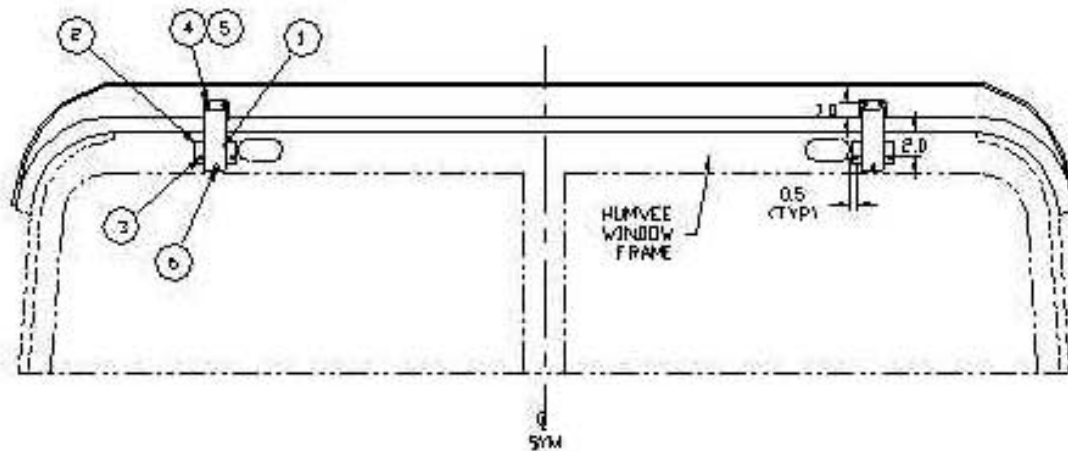

FIG. 1-3
9. Position the strikes on the windshield frame and mark the holes. Drill the holes in the windshield frame with a  $\frac{1}{4}$ " drill bit. Install the strikes with (4 ea.) rivets. See figure 1-3.
10. Install the latches into the strikes and close the latch. Adjust length of the latches so that the center of the latch mounting holes is above the bottom of the rib by 1". Mark the holes for the latches on the reinforcement rib. Remove the latches from the strikes. Drill the holes with a 3/16" drill bit a maximum of 1-1/4" deep. **NOTE: DRILLING DEEPER THAN 1-1/4" WILL DAMAGE THE TOP.** Install the latches with (4 ea.) 1/4" x 1-1/4" pan head wood screws and (4 ea.) 1/4" washers. Adjust the latches so that the top is pulled tightly to the windshield frame and secure the latches. The latch handles have a small hole near the bottom. Drill through these holes into the windshield frame with a 1/8" drill bit. Secure the handles to the windshield frame with (2 ea.) #10 washer head screws. See figure 1-3.